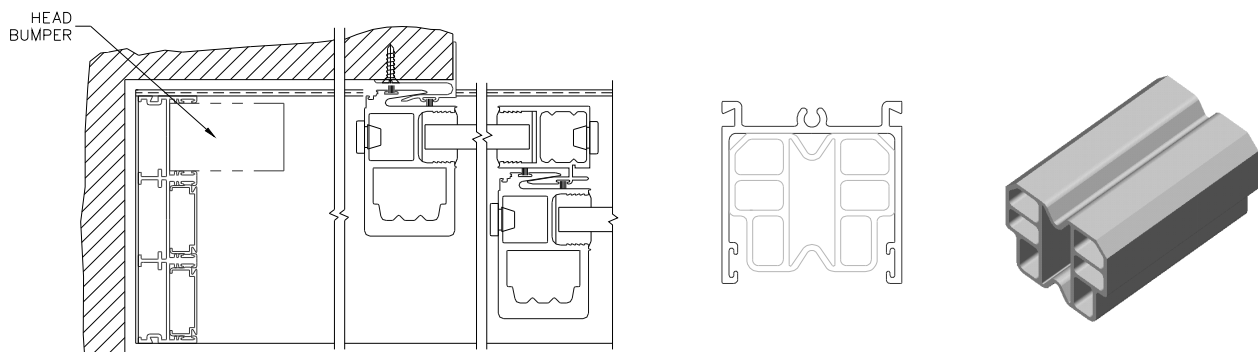

Figure 21:
- Install black rubber bumper in the frame head as shown below (Figure 21).